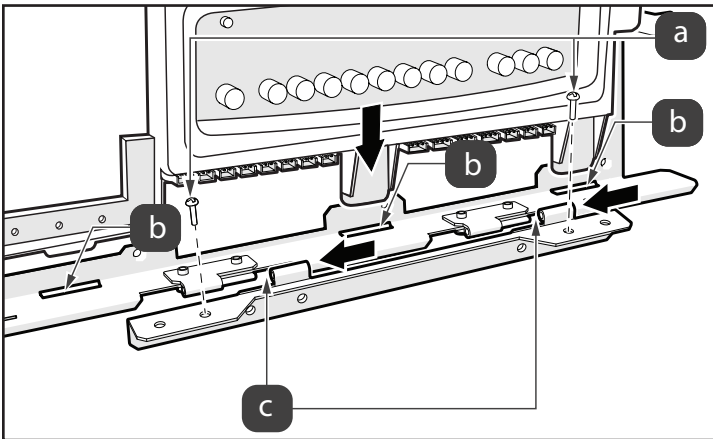

Figure 14. AquaLink® RS Conversion Kit Hinge
1. Secure AquaLink® RS Conversion Kit hinge using the 2 retaining screws removed in section 2.4, see Figure 14(a)
2. Slide 3 tabs on AquaLink RS Conversion Kit PIB into the slots in bracket, see Figure 14(b).
4. Slide pins on AquaLink RS Conversion Kit into hinge, see Figure 14(c).